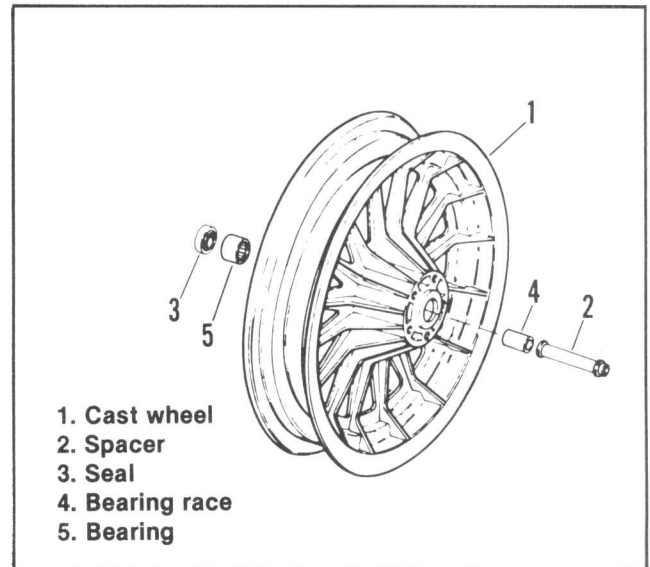

Figure 3-5. Sidecar Wheel — Exploded View
To grease needle bearing, the brake drum, spacer, and inner race must be removed. See Figure 3-5.
1. See Figure 3-5. Remove the spacer (2) from the wheel (1).
2. Remove the seal (3) and the bearing race (4) from the right side of the wheel.
3. If the bearing (5) has to be removed, use BEARING PULLER, Part No. HD-95760-69. Do not reuse this bearing.
8. See Figure 3-5. Using moderate thumb pressure, insert the spacer (2) as far as it will go into the opposite side of the wheel with the flatter end against the inner race (4). The inner race should project slightly from the wheel hub and seal (3).